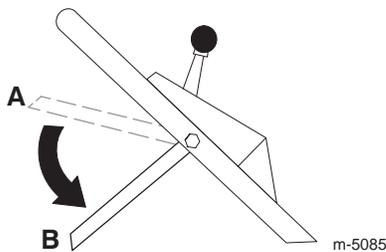

Figure 14
- Release the blade control bail; refer to position **B** in Figure 14. You should hear a “bang.” The blade should stop in 3 seconds.
- Move the blade control bail down to its lowest position (Position **B** in Fig. 14).